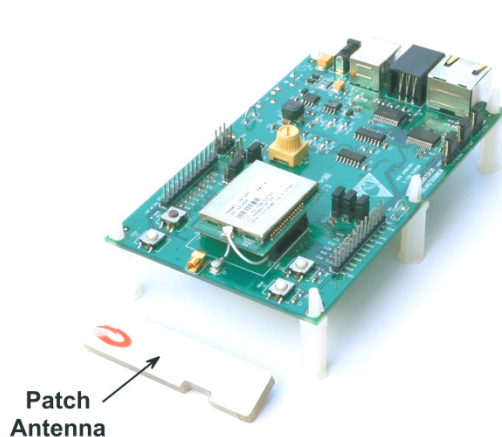
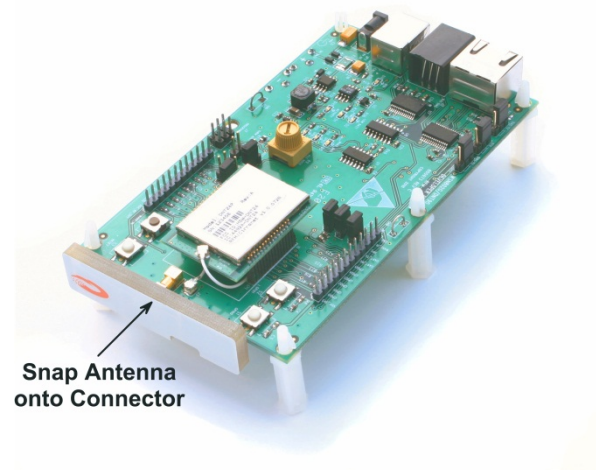

Figure 8.4.1
Figure 8.4.2
1. Figure 8.4.1 shows a DNT24MP radio installed on an interface board, and a patch antenna. Observe ESD precautions when handling the kit circuit boards. Install a patch antenna on each interface board by pressing the antenna into the interface board RF connector with moderate pressure until the antenna snaps onto the connector, as shown in Figure 8.4.2. Note that no external antenna is required when using the DNT24MPA radios supplied in the DNT24MA Kits.